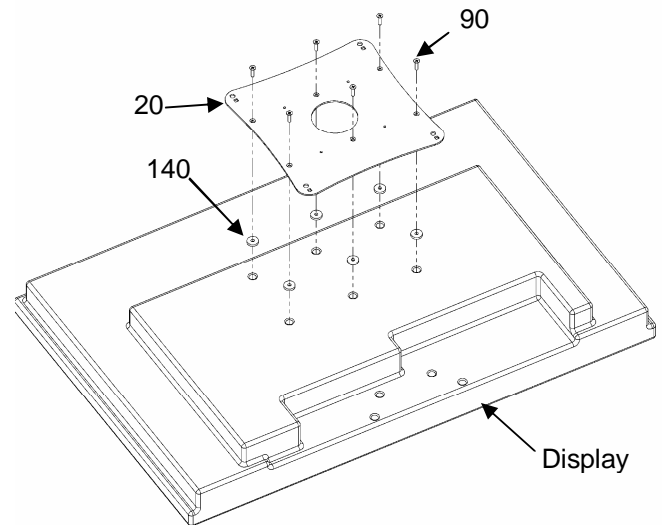

Figure 8. Attach Interface Bracket to Display (200mm x 100mm)
2. Place six spacers (140) over six mounting holes in display as shown in Figure 8.
3. Attach VESA Plate (20) to display using six M4 x 16mm flat head screws (90).